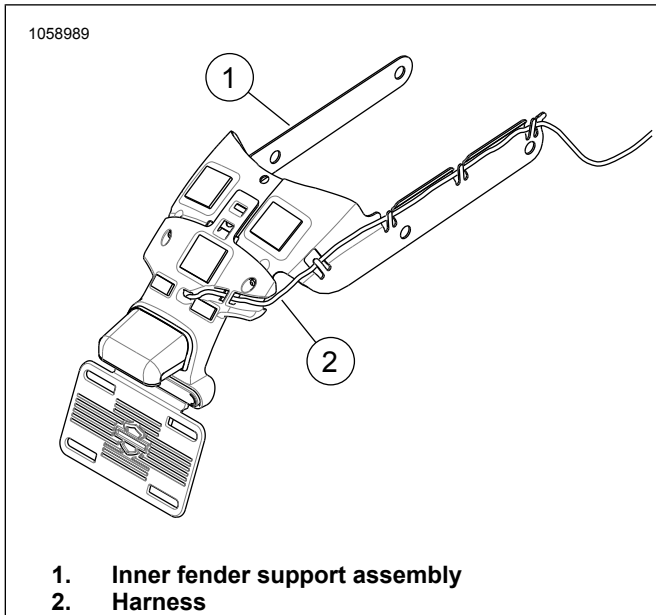

Figure 3. Inner Fender Support Assembly (Typical)
9. See Figure 3. Route harness (2) through inner fender support assembly (1).